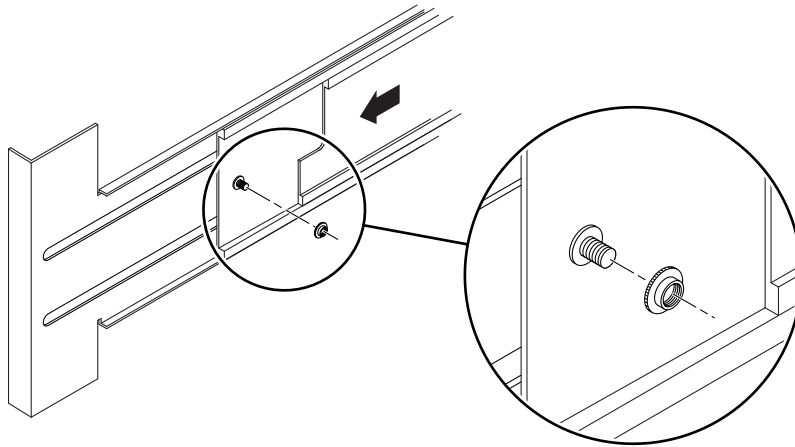

FIGURE 3-12 Inserting and Tightening the Retention Washer
3. From the rear of the system, insert and tighten the supplied retention washer onto the bolt (FIGURE 3-12).
3. From the rear of the system, remove the threaded washer from each bolt, which is connected to the slide (**FIGURE 3-12**).